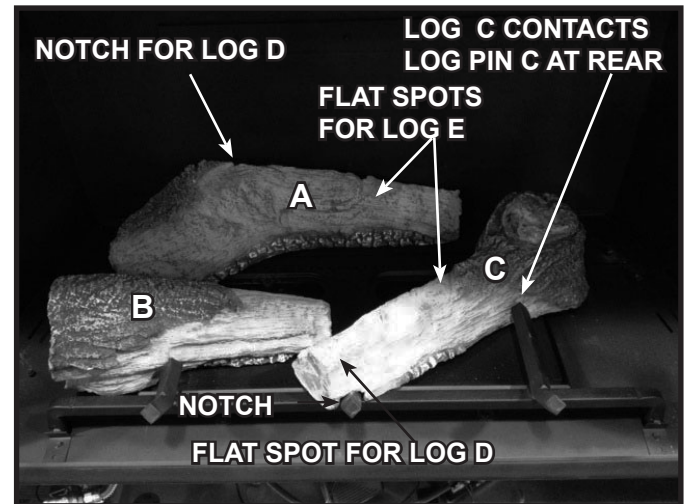
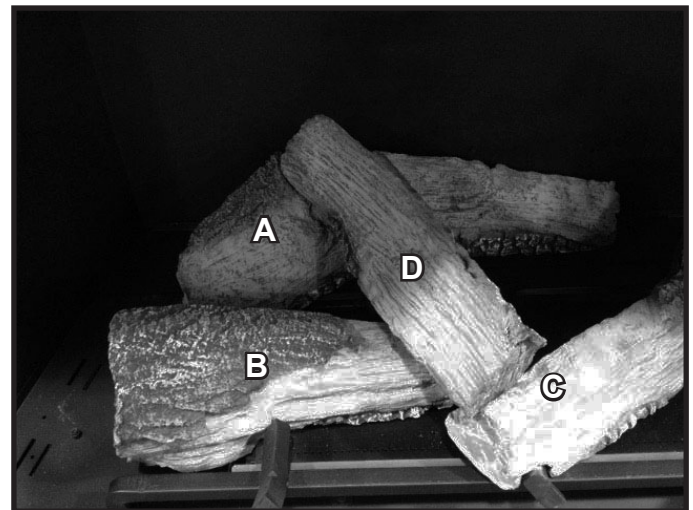
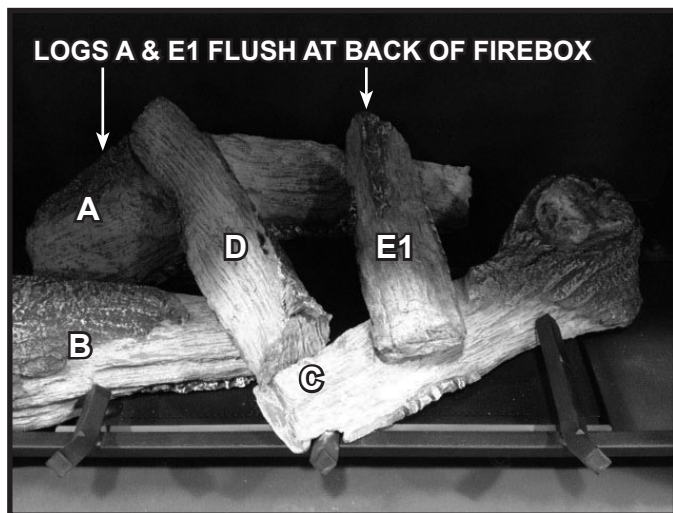

Figure 7. Log C Installed
Figure 8. Log D Installed
Figure 9. Log E Installed
3. **(LOG C):** Locate the notch on Log C. Place the notch over the center grate tine, and rear of log between the right grate tine and Log Pin C as shown in Figure 7. Move notched end of log forward until it stops, then rotate rear of log to rear until it contacts Log Pin C.
4. **(LOG D):** Log D will utilize two flat spots for its placement as shown in Figure 7. The flat spots are located on Log A and on Log C. Locate the end of Log D that does not have bark and place it into the notch on Log A. Place the other end of Log D on the flat spot on Log C. See Figure 8. The front edge of Log A may lift off the burner/hearth pan slightly when Log D is placed properly.
5. **(LOG E1):** Log E will utilize two flat spots for its placement as shown in Figure 7. The flat spots are located on Log A and on Log C. Place the “bark” end of Log E1 on the flat spot on Log A. Rest the other end of Log E on the flat spot of Log C. The back of Log E1 should be flush with the back of Log A. See Figure 9.